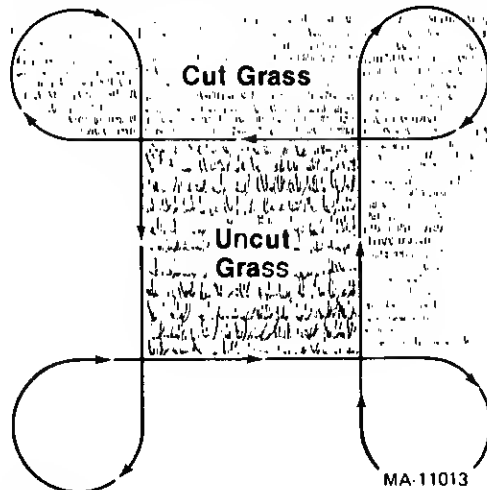

FIGURE 45.
4. Follow the mowing procedure shown in figure 45.